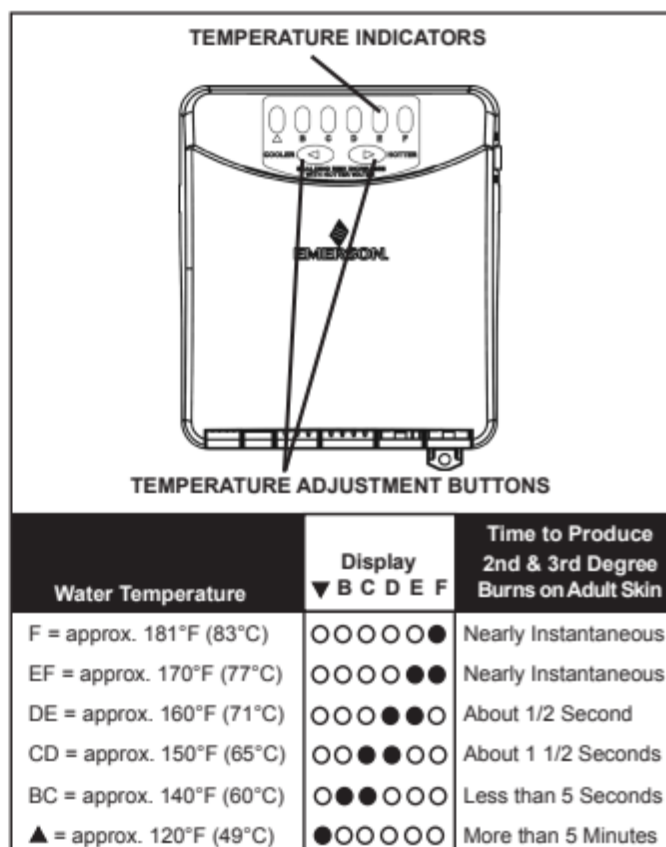

FIGURE 22.
HOT WATER CAN SCALD: Water heaters are intended to produce hot water. Water heated to a temperature which will satisfy space heating, clothes washing, dish washing, and other sanitizing needs can scald and permanently injure you upon contact. Some people are more likely to be permanently injured by hot water than others. These include the elderly, children, the infirm, or physically/mentally handicapped. If anyone using hot water from this heater fits into one of these groups or if there is a local code or state law requiring a certain temperature water at the hot water tap, then you must take special precautions. In addition to using the lowest possible temperature setting that satisfies your hot water needs, a means such as a mixing valve, shall be used at the hot water taps used by these people or at the water heater. Mixing valves are available at plumbing supply or hardware stores, see Figure 2. Follow manufacturer's instructions for installation of the valves. Before changing the factory setting on the thermostat, in this manual, see Figure 22.
1. "Wake Up" the temperature indicators by holding down both "COOLER" and "HOTTER" temperature adjustment buttons at the same time for one second, see Figure 22. One or two of the temperature indicators will light up. These indicators will only remain on for 30 seconds if no further buttons are pressed. After 30 seconds the control will go back to "Sleep" mode.